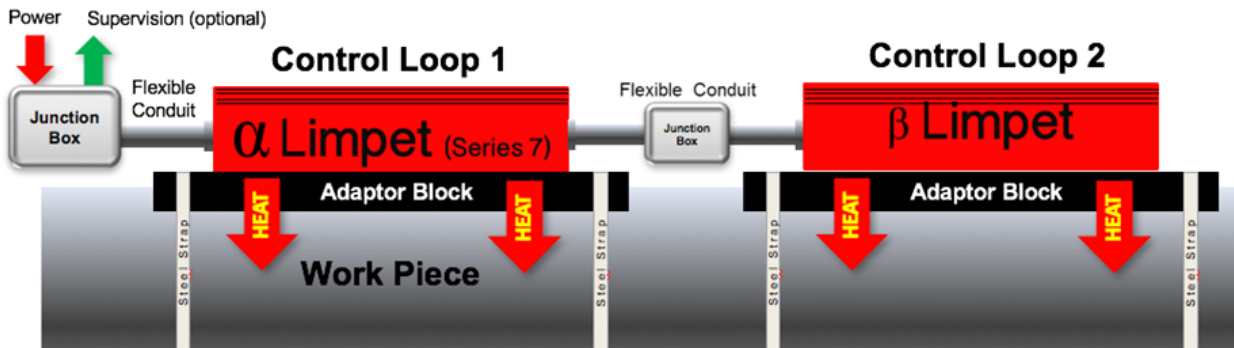

Figure 4 — Typical Series AlphaLimpet application with second control loop in a BetaLimpet
- A typical arrangement with a Series 7 AlphaLimpet and BetaLimpet is shown in Figure 4.